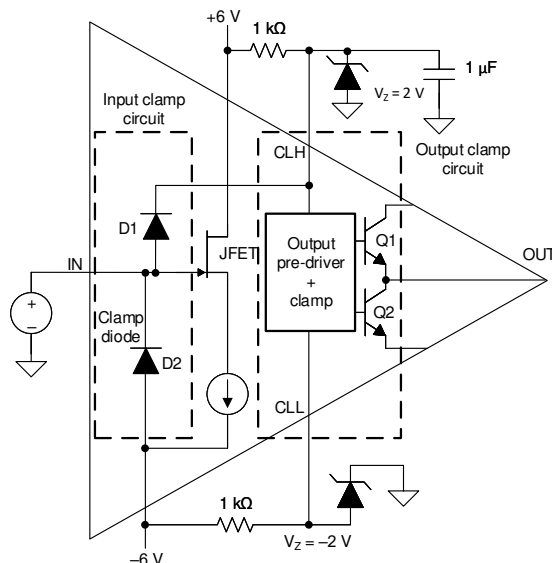

Figure 7-1. Internal Input and Output Overvoltage Clamp
- Figure 7-1 shows the input of the BUF802 tied to pins CLH and V_{S-} through two internal clamp diodes, D1 and D2. The diodes are rated for 100 mA of continuous current but withstand much higher transient currents. If the JFET input voltage exceeds the voltage at CLH or V_{S-} , the diodes get forward biased, clamping the JFET to CLH and V_{S-} . A 1-μF capacitor connected in parallel to the zener diode helps in transient absorption traveling through the D1 diode.